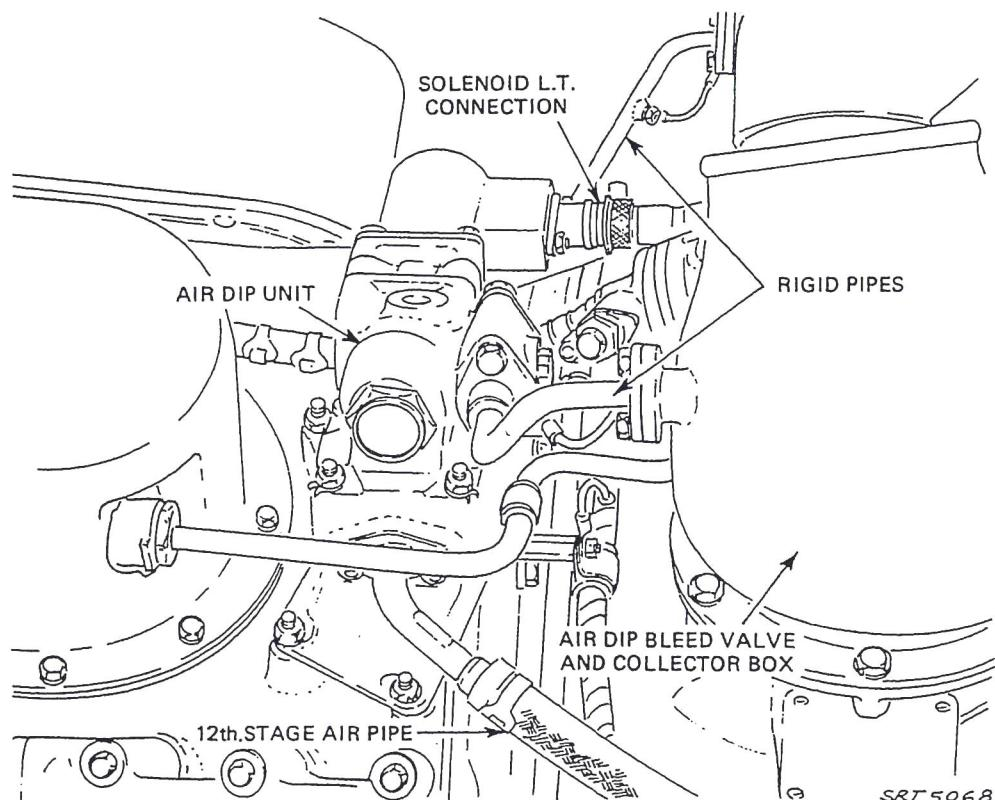

Fig.5 Air dipping unit
(1) Unscrew the electrical connection then, remove the three pipes at their seal housing joints (fig.5); disconnect the rigid pipes at their opposite ends. Unscrew the retaining nuts then, remove the unit.
(2) Do not inhibit this unit, but store it in dry conditions.